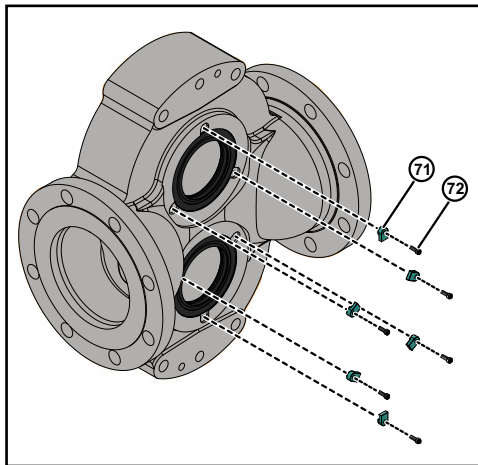

Figure 117 - Remove Screws and Retainer-tab
2. Remove all the retainer-tab bolts (72) and retainer-tabs (71) from the pump body, as shown in Figure 117. This is *applicable for model 220-320*.